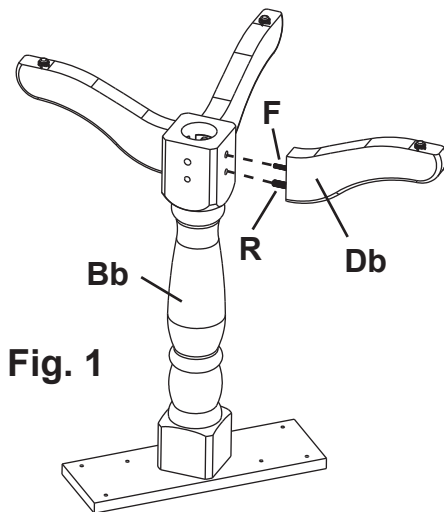

Fig. 1
1. Turn the Pedestal Assembly (Bb) face-down on a clean, protective surface. Spread a thin layer of glue in the dowel holes and glue Dowels (R) on the Feet (Db). Insert the Hanger Bolts (F) through the lower holes in the base of the Pedestal Assembly (Bb) and quickly wipe away any excess glue. Place a Curved Washer (G) and 3/8" Hex Nut (H) over each Hanger Bolt (F) and tighten firmly with a 9/16" wrench. See Figures 1, 1a and 1b.